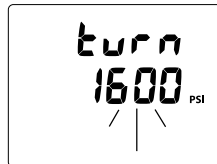

Fig. 28 - SET TURN ALARM
**SET TURN PRESSURE ALARM**, information includes (Fig. 28):